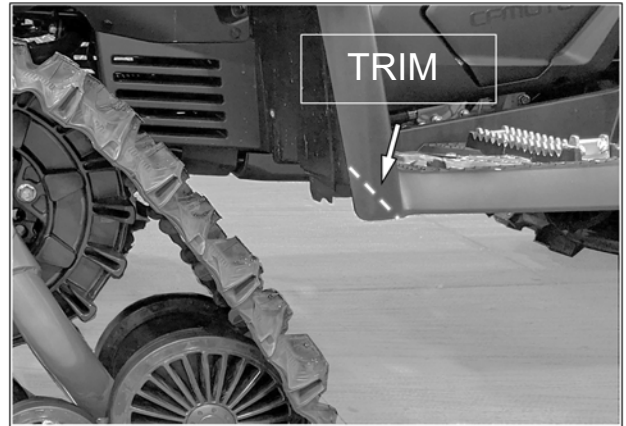

Fig. 28
3. The lower corner of the front fender must be trimmed as shown in Fig. 28